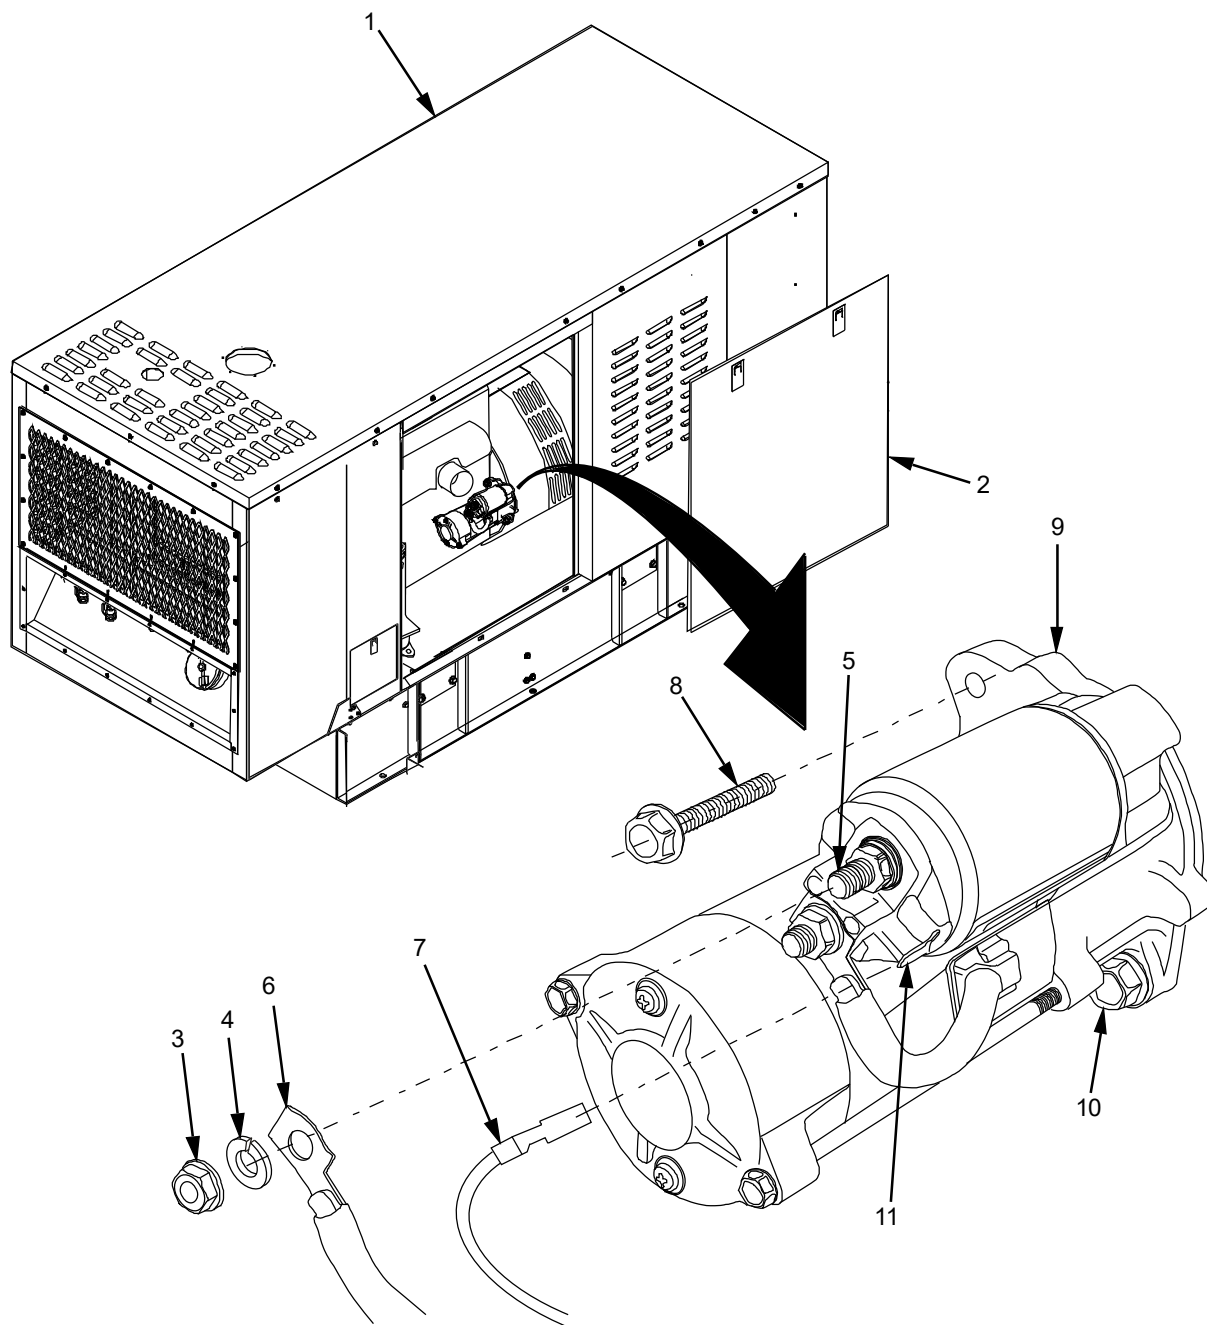

Figure 1. Starter - Replace.
1. Verify that Genset (Figure 1, Item 1) has been shut down, engine is cool, and that BATTERY SWITCH is set to OFF (WP 0005, Genset Shut Down Procedure).
3. Remove front access panel (Figure 1, Item 2) and set aside.
5. Disconnect red cable(s) (Figure 1, Item 6) from positive (+) terminal of battery and set aside (WP 0056).
6. Remove and retain nut (Figure 1, Item 3) and lock washer (Figure 1, Item 4) from starter terminal (Figure 1, Item 5). Discard lock washer (Figure 1, Item 4).
7. Disconnect battery cable (Figure 1, Item 6) from starter terminal (Figure 1, Item 5) and set aside. Loosely install nut (Figure 1, Item 3) and new lock washer (Figure 1, Item 4) onto starter terminal (Figure 1, Item 5).
8. Unplug cable (Figure 1, Item 7) from post (Figure 1, Item 11) on starter.
9. Remove and retain lower mounting bolt (Figure 1, Item 10) from starter (Figure 1, Item 9).
10. Remove and retain upper mounting bolt (Figure 1, Item 8) from starter (Figure 1, Item 9).
11. Pull starter (Figure 1, Item 9) away from starter mount on engine assembly and set aside.
1. Insert starter (Figure 1, Item 9) into the starter mount on engine and secure using two bolts (Figure 1, Items 8 and 10).
2. Using torque wrench, tighten two bolts (Figure 1, Items 8 and 10) on starter (Figure 1, Item 9) to 93~113 ft./lb (69~83 n-m/9.5~11.5 kgf-m).
Prior to performing the following step, inspect terminals on battery cable (Figure 1, Item 6) and second red wire (Figure 1, Item 7) for connectivity. Ensure that wires have not become brittle and that there are no nicks, cuts or other damage to wires.
3. Connect battery cable (Figure 1, Item 6) to starter terminal (Figure 1, Item 5). Secure to starter terminal (Figure 1, Item 5) with nut (Figure 1, Item 3) and new lock washer (Figure 1, Item 4).
4. Connect cable (Figure 1, Item 7) to post (Figure 1, Item 11) on starter (Figure 1, Item 9).
5. Connect battery cable (Figure 1, Item 6) to positive (+) terminal of battery (WP 0056).
7. Install front access panel (Figure 1, Item 2).